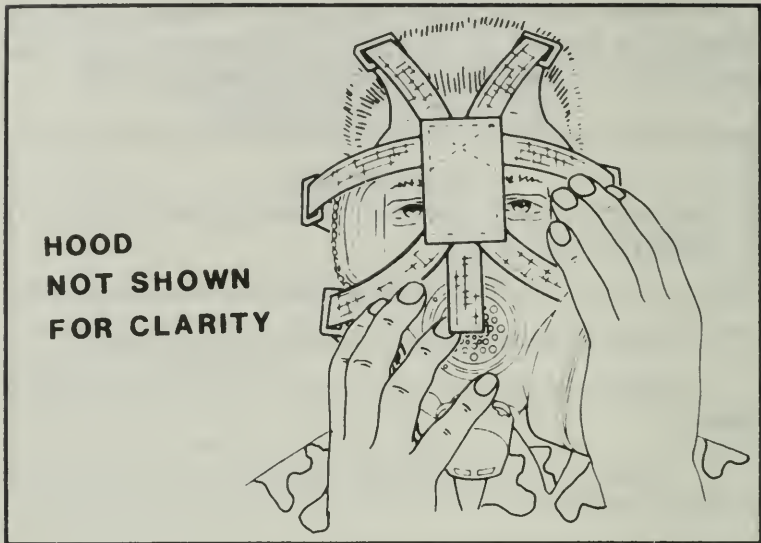

Figure 303. Clear and check the mask.
h. With the palm of your hand, cover the inlet port of the canister and breathe in (Figure 303). The facepiece should collapse against your face and remain so while you hold your breath. If it does, the facepiece is airtight. If the facepiece does not collapse, check for hair, clothing, or other matter between the facepiece and your face.